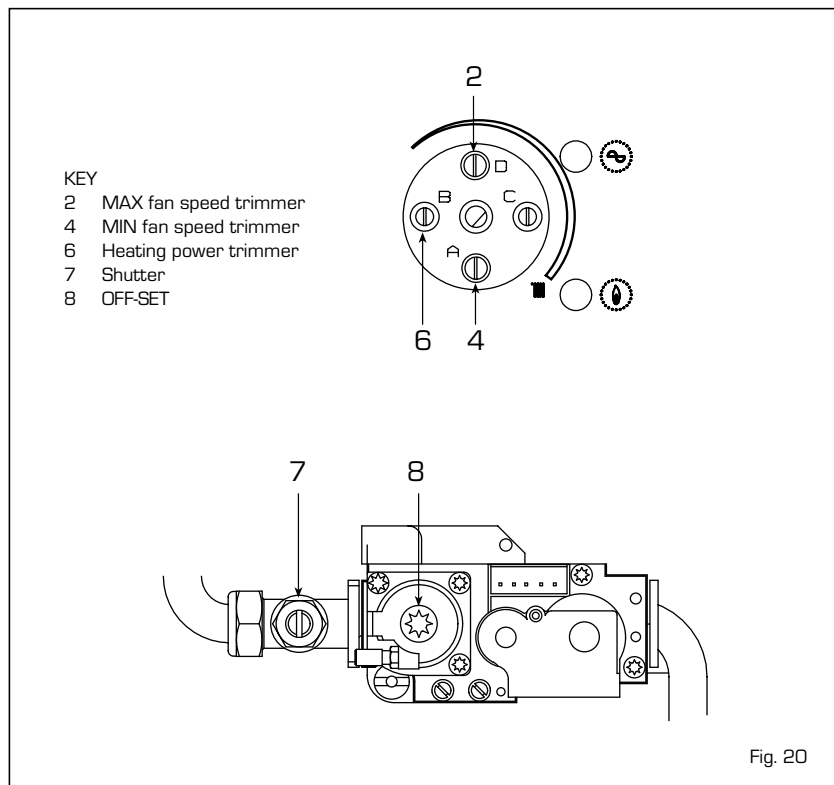

Fig. 20
4.4 CALIBRATION PROCEDURE IN HEATING PHASE USING HERTZ (fig.20)
Sequence (Fig. 20)
- Adjust the maximum air pressure using fan speed trimmer D (2 fig. 20).